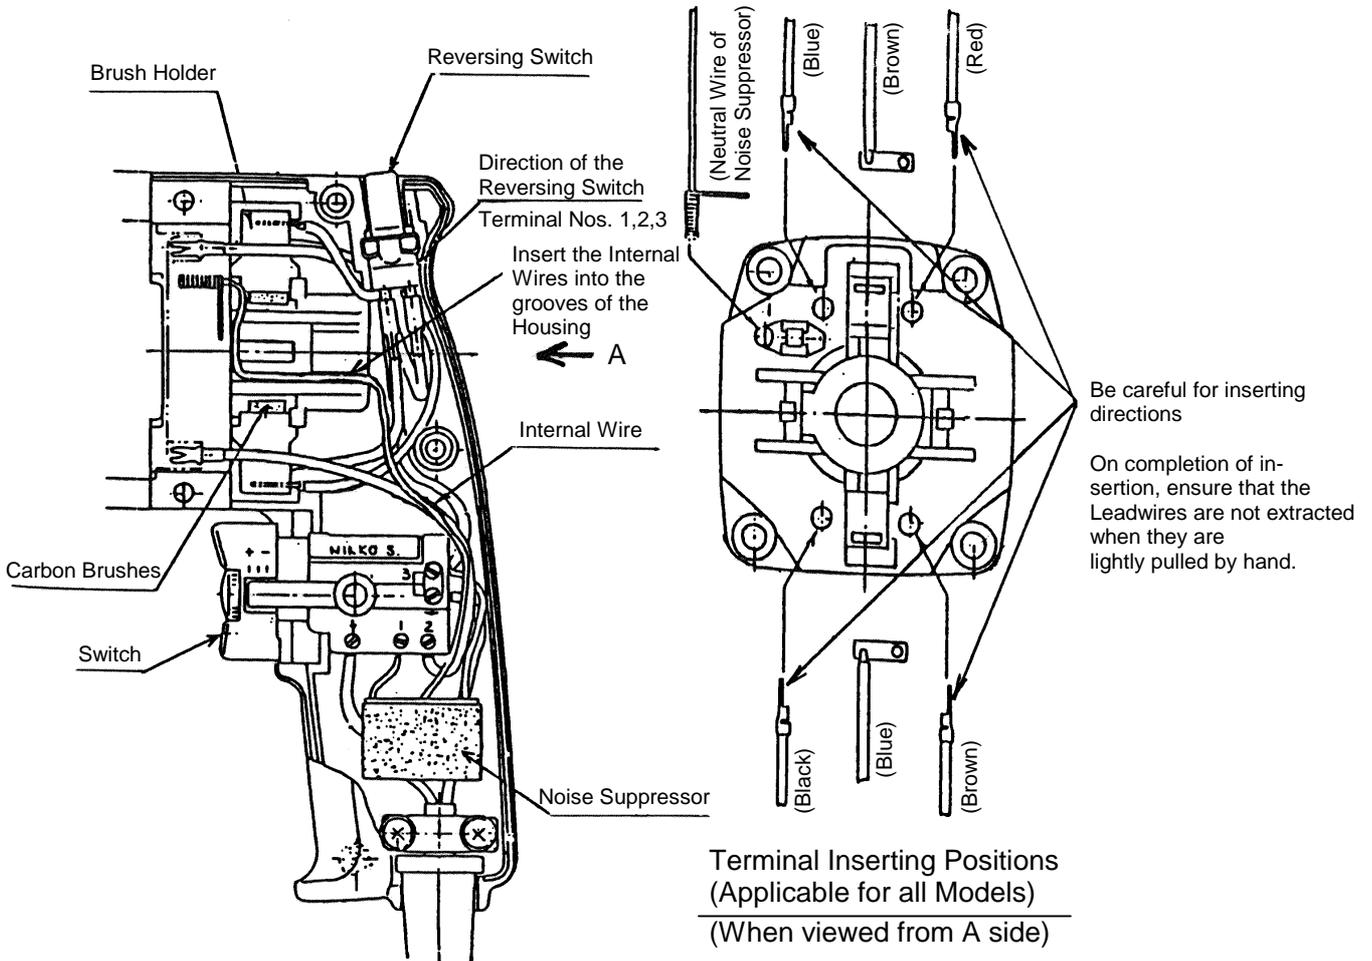

Fig. 18 Models DV20V2 and DV14V
- (2) Refer to Figs. 18 - 20 for leadwire arrangements. Be very careful not to pinch any of the leadwires when reassembling Handle (B).
- (3) Wiring Diagrams: